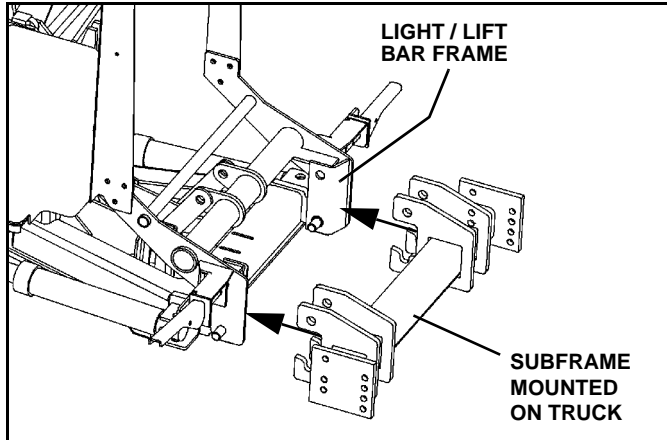

Figure 1-16
1. Drive truck into plow. Align light/lift bar frame inside of subframe lugs. Pins should fit inside slots cut into subframe lugs. (See Figure 1-16).